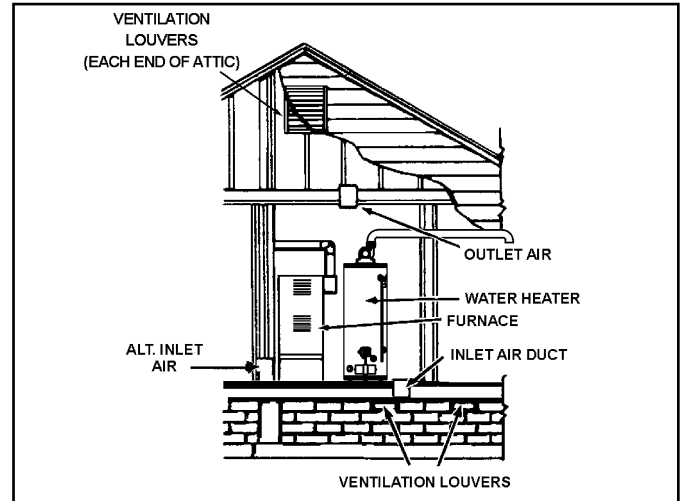
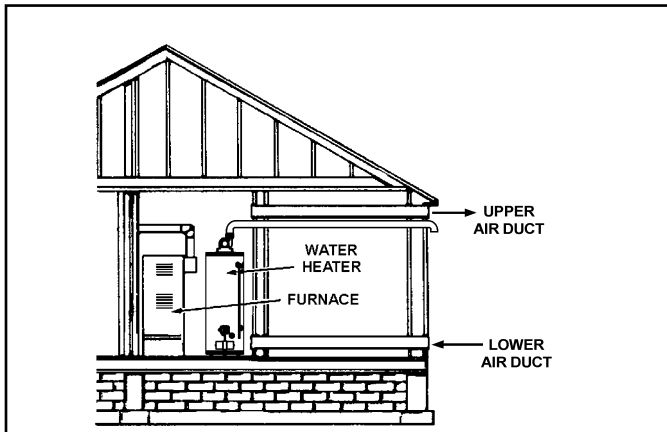

Figure 16.
Figure 18.
Use this method if indoor combustion air is insufficient. (See Figure 16 through Figure 18).
1. When directly communicating with the outdoors, each opening shall have a minimum free area of 1 square inch per 4,000 Btu/hr of total input rating of all equipment in the enclosure (see Figure 16).
3. When communicating with the outdoors through horizontal ducts, each opening shall have a minimum free area of 1 square inch per 2,000 Btu/hr of total input rating of all equipment in the enclosure (see Figure 18).
4. When ducts are used, they shall be of the same cross-sectional area as the free area of the openings to which they connect. The minimum short side dimension of rectangular air ducts shall not be less than 3" (see Figure 18).